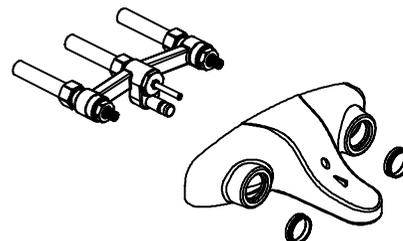

Fig. 3
- 5 Next, slide the decorative cover with spout onto the cast body. Take care to align the spout outlet and the diverter stem with the cover openings. Thread knurled trim nuts onto the threaded cartridge sockets of the cast body. Tighten knurled trim nuts by hand until the diverter stem extends to the edge of the raised ridge on the top of the spout. This will insure that the spout is secure and that the diverter will move freely between "OPEN" and "CLOSED" positions. (see Fig. 3)